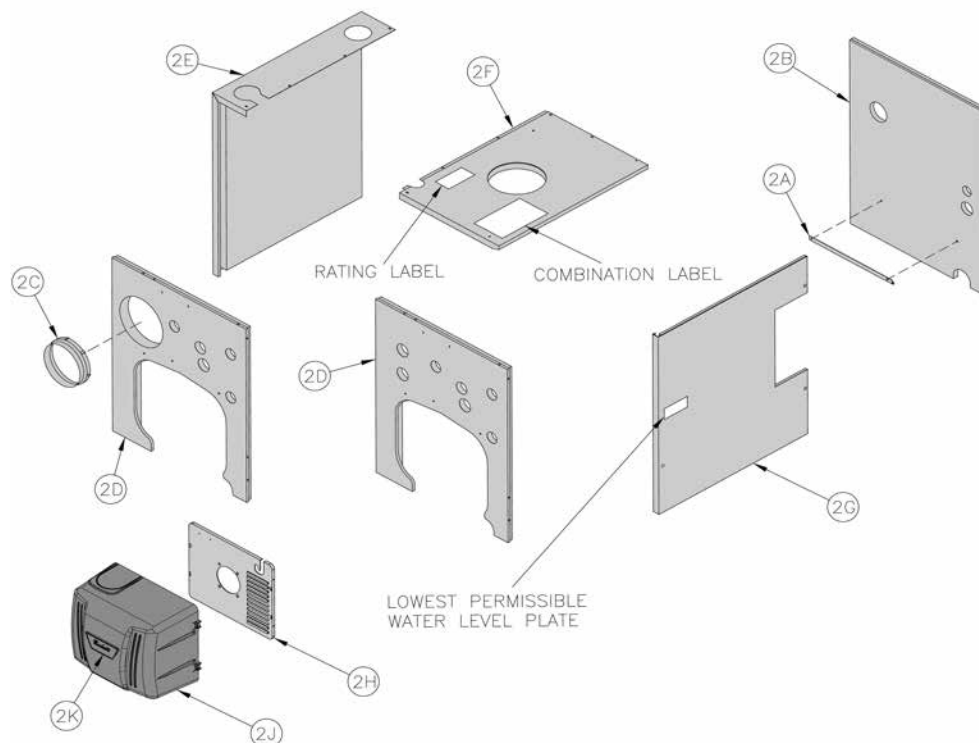
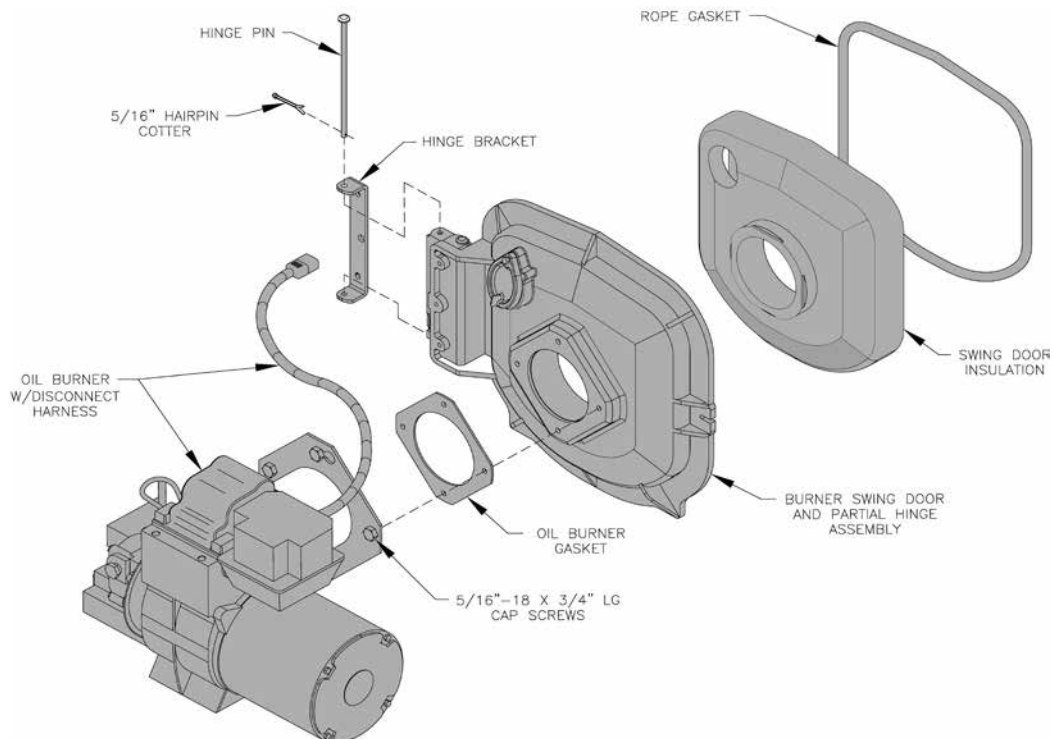

Figure 6: Knockdown Boiler Jacket Assembly
Figure 7: Oil Burner Installation (Beckett Burner Shown)
I. INSTALL BOILER JACKET. (See Figure 6).
- Remove burner swing door and hinge assembly. Remove one (1) 5/16"-18 flange nut and washer from right side latching stud and one (1) 5/16"-18 x 3 $\frac{1}{2}$ " cap screw on left side used for securing burner swing door to the boiler section. Swing door open and remove 5/16" hairpin cotter from rear hinge
pin (see Figure 7). While holding swing door remove hinge pin and set door aside. Remove two (2) 5/16"-18 x $\frac{3}{4}$ " long cap screws securing the hinge bracket to the boiler section.
- Install jacket rear panel support bracket. (See Figure 6, Item 2A). Align bracket with two (2) 5/16"-18 tapped holes in rear section and secure with two (2) 5/16"-18 x 1/2" long cap screws.
- Install jacket rear panel. (See Figure 6, Item 2B). Align holes in jacket rear panel and support bracket. Secure with two (2) #8 x 1/2" long sheet metal screws.
- Install black plastic collar extension to jacket front panels for 7-13/16" diameter tankless heater opening. (See Figure 6, Items 2C and 2D). Engage two (2) of the collar retaining tabs over raw edge of jacket opening. Provide support behind the panel with one hand while applying pressure on collar to snap each tab over edge of opening until all eight (8) tabs are securing collar.
- Install jacket front panel. Locate two (2) 11/32" diameter holes, one round, one obround, on front panel approximately 16" up from the bottom of the panel. Align these holes with the similarly located 5/16"-18 tappings on the front section. Secure
5. Install jacket left side panel. (See Figure 6, Item 2E). Fold panel at perforation keeping insulation inward. Align left side panel mounting holes with the front and rear panel holes. Secure with #8 x 1/2" long sheet metal screws.
6. Install jacket top panel. (See Figure 6, Item 2F). Place jacket top panel on boiler and secure to front, rear and left side panels with #8 x 1/2" long sheet metal screws.
7. Install jacket right side access panel. (See Figure 6, Item 2G). Align right side panel mounting holes with front and rear panel holes. Secure with #8 x 1/2" long sheet metal screws.
- a. Locate both the Rating Label and Combination Warning Label (P/N 102801-03). Remove paper backing from the labels and apply to the jacket top panel in approximate locations shown in (Figure 6, Item 2F).
(2) #8 x 1/2" long sheet metal screws. (See Figure 6, Item 2G).
(See Figure 7).
- n. Swing igniter closed, rotate tabs and tighten two (2) igniter screws.
K. INSTALL CARLIN ELITE EZ OIL BURNER, 3 thru 6 Section (See Figure 7).
L. INSTALL CARLIN 102CRD OIL BURNER, 7 thru 9 Section (See Figure 7).